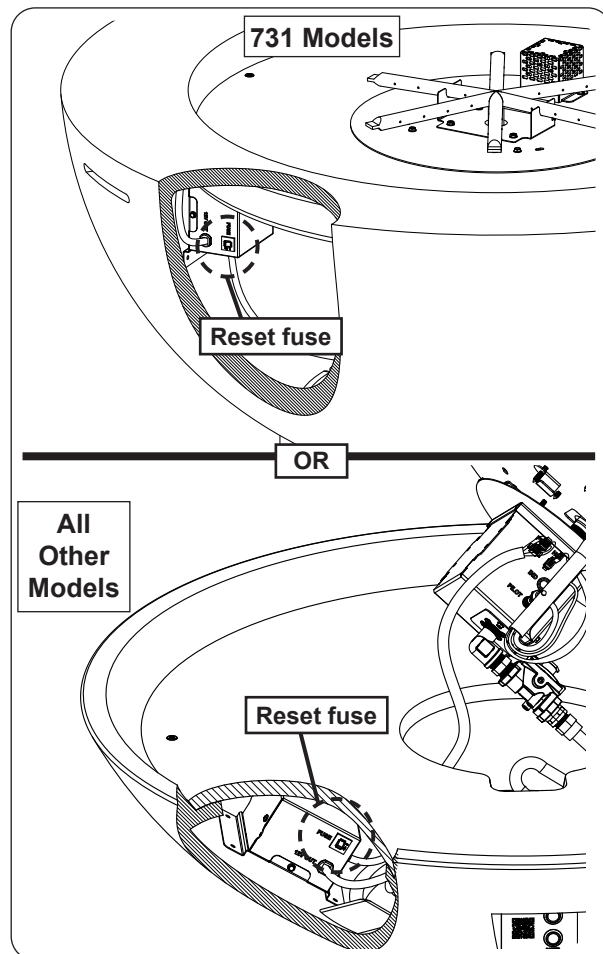

Fig. 43-2 Reset fuse
2. Gain access to the valve box and reset the fuse as shown in Fig. 43-2.